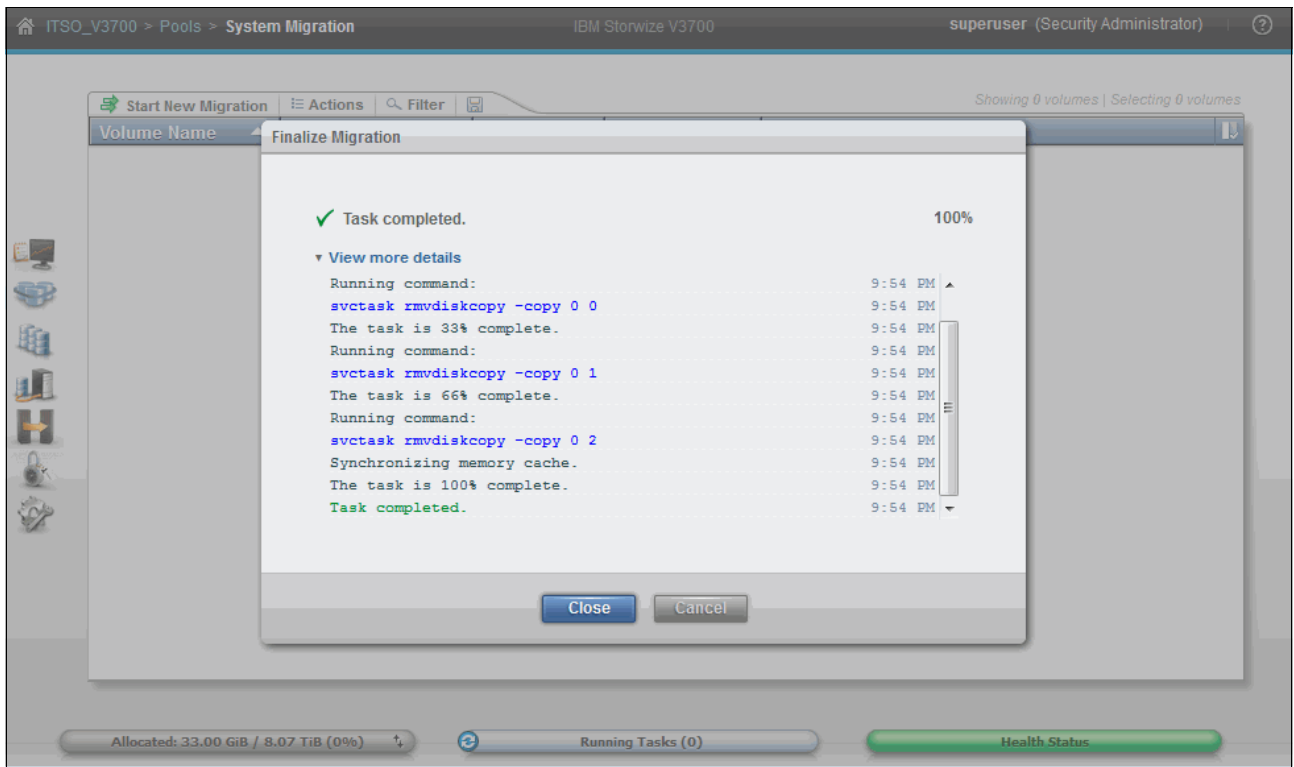

Figure 6-65 Removal of image mode volumes
4. Verify the volume names, enter the number of migrations to finalize, and click **OK**. The image mode volumes are deleted and the associated image mode MDisks from the migration Storage Pool are removed. Figure 6-65 shows the tasks completing.